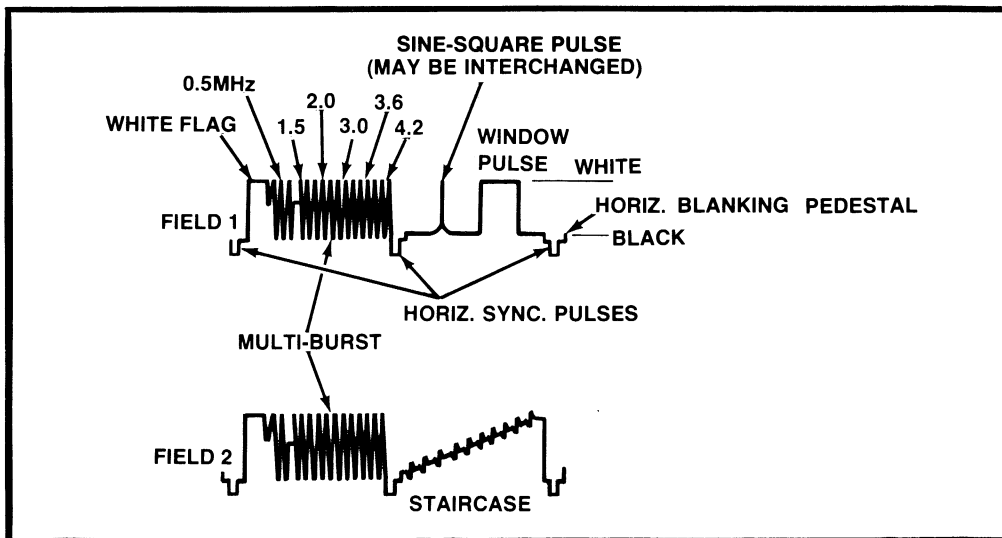
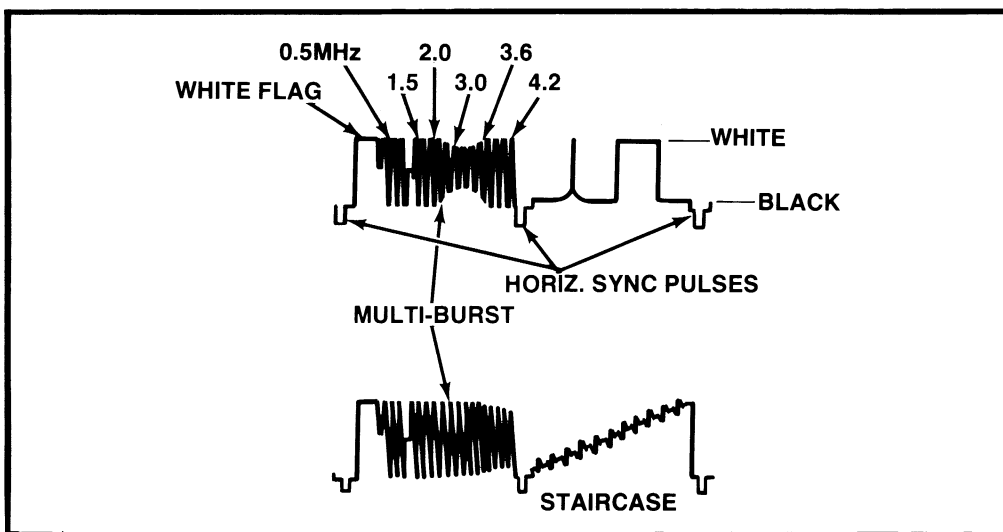

Figure 6-14. Standard Vertical Test Signal Waveform
Figure 6-15. Distortion in Multi-Burst Waveform
**6.19.1** The VITS is incorporated in the composite video of most network color broadcasts to help insure invariant high quality of the transmitted color picture. A part of this signal can be used for rapid analysis of color set performance. This is the multi-burst portion of VITS (see Figure 6-14). The multi-burst, as broadcast, consists of a white level signal followed by short bursts of frequencies from .5 MHz to 4.2 MHz, all of which are equal in amplitude. By looking at these bursts of frequencies at the video output of a TV set, it can be readily seen if the amplifiers and other circuits from the RF input are responding properly (see Figure 6-15).